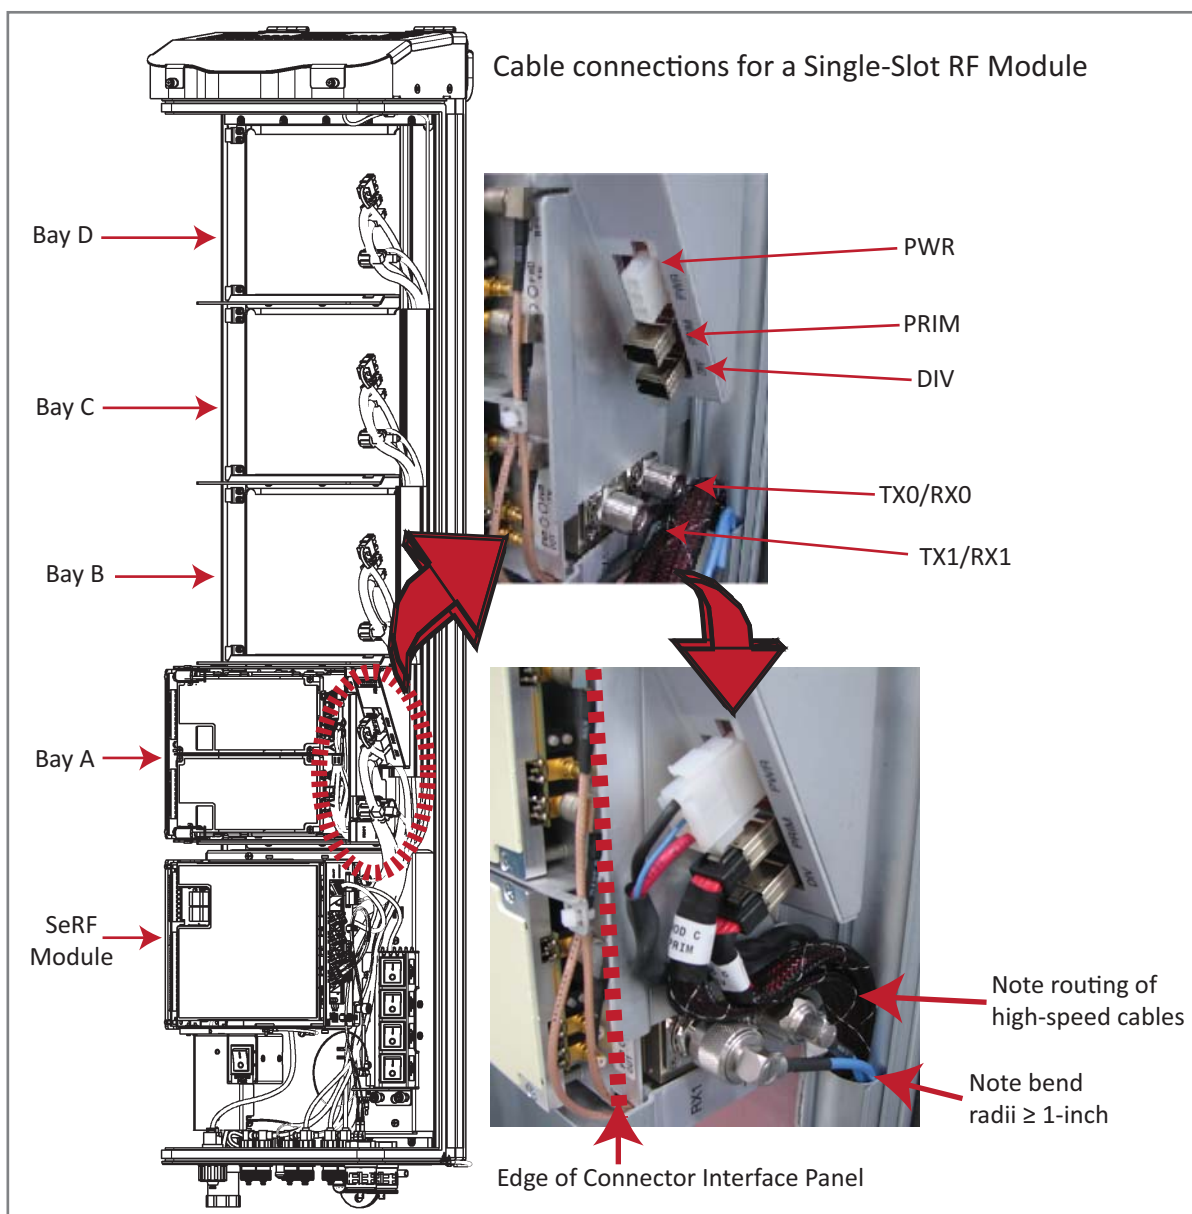
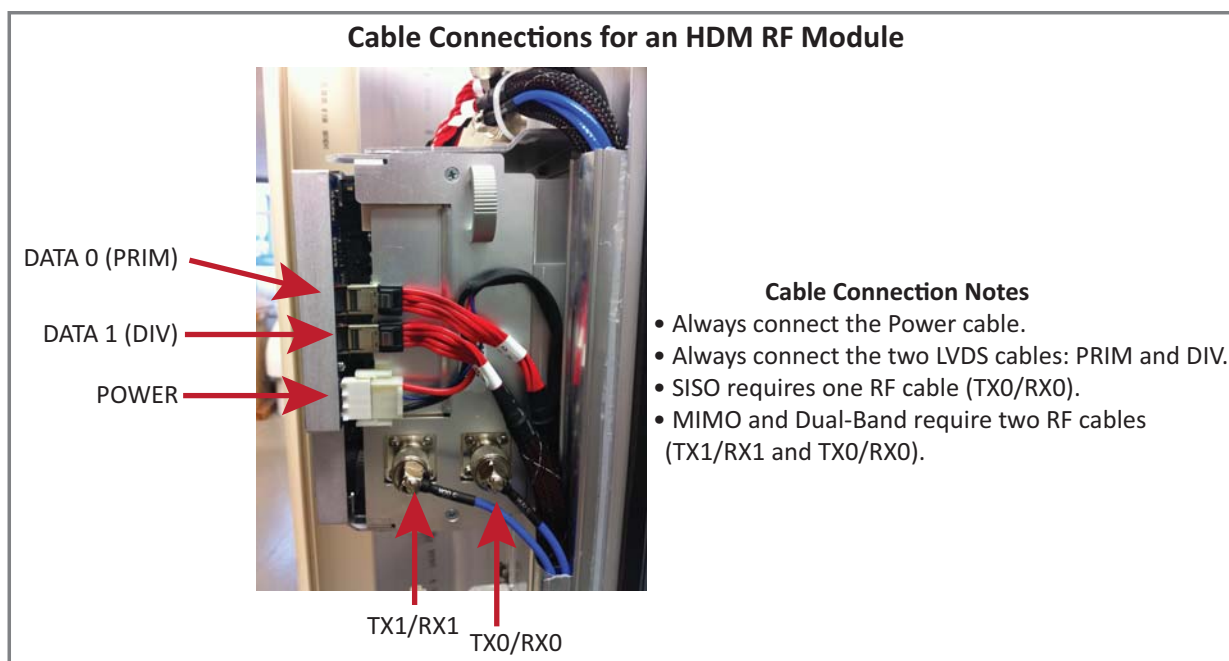

Figure 31. Cable Connections for Single-Bay RF Modules
Figure 32. Cable Connections for HDM RF Modules
- 3 Connect the RF Module cables, in the order shown below. As you work, refer to the graphic that corresponds to the RF Module being installed into a single bay of the PRU: for a Single-Bay RF Module, refer to Figure 31 on page 102, and for an HDM RF Module, refer to Figure 32 on page 103 and Table 24 on page 104.